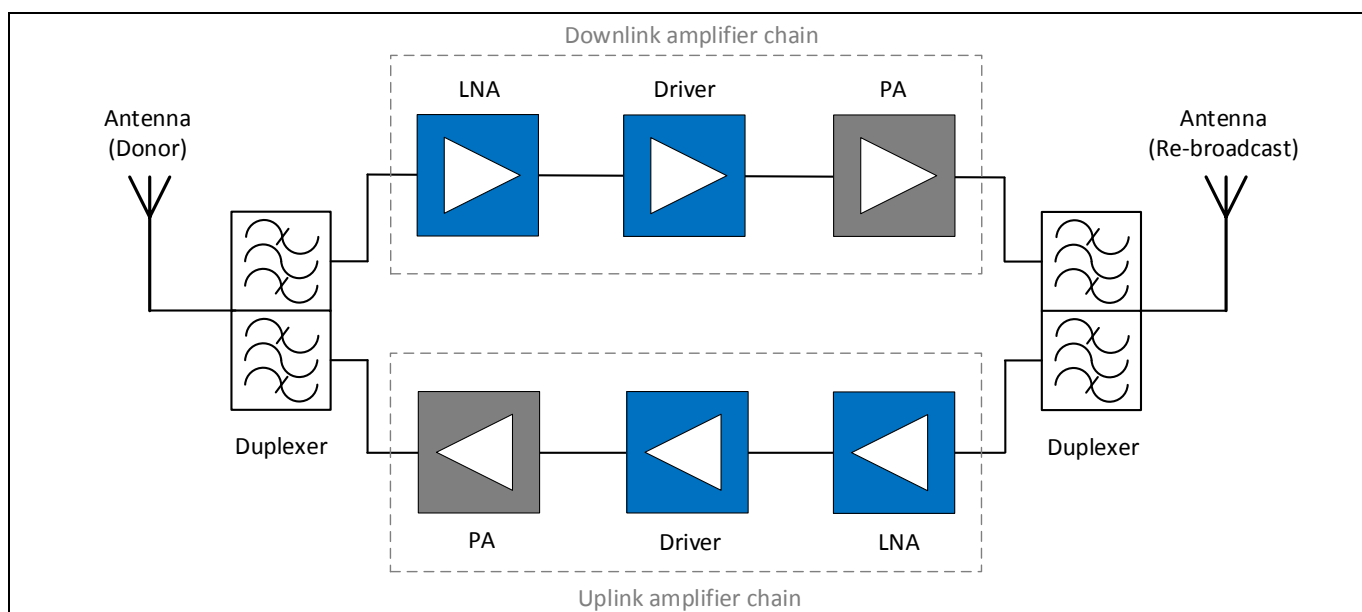

Figure 1 Block diagram example of a cellular repeater
The GSM900 is one of the most popular telecommunication standards around the world, operating in the frequency band 8 (925 to 960 MHz for downlink and 880 to 915 MHz for uplink). A block diagram example of the GSM900 repeater is shown in Figure 1. The active components of the repeater are RF amplifiers for both the uplink and downlink signal amplification. The uplink and downlink amplifier chains should provide sufficient signal gain and output power level. The power amplifier (PA), which is the final stage of the signal amplifier chain, requires a certain input signal power level to fully exploit the PA output power and efficiency. The input signal power level required from the PA usually cannot be delivered by the low noise amplifier (LNA) directly. The driver amplifier, also known as a gain block, amplifies the signal from the LNA to the PA in a linear way. The driver amplifier generally operates in linear Class-A mode to enable high linearity and high gain, thereby keeping spurious signals low.